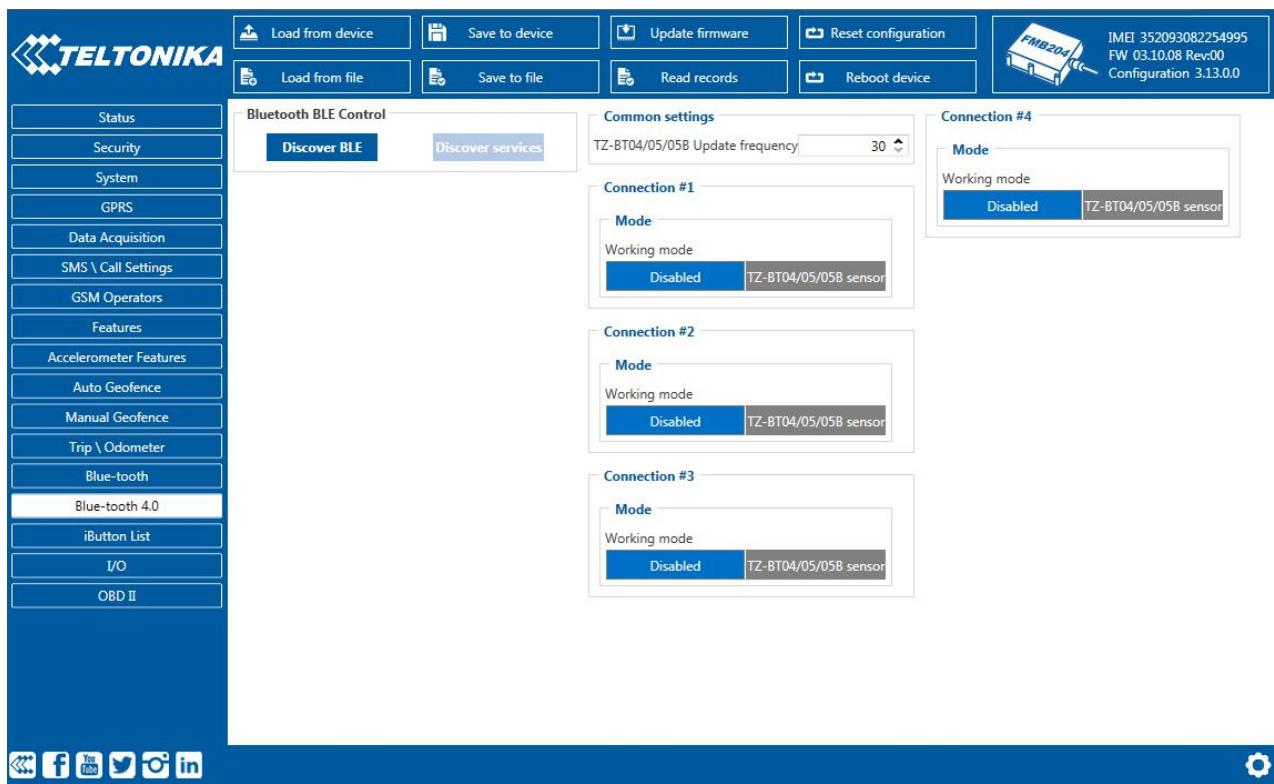

Figure 38 1- blue-tooth 4.0 settings; 2 - Enable blue-tooth mode; 3 - blue-tooth ID (MAC);
- When device configuration is loaded press „blue-tooth 4.0“ settings (**Figure 38 1** position).
- Change BTLE Radio mode by pressing „TZ-BT04/05 sensor“ (**Figure 38 2** position). „ID“ (**Figure 38 3** position) is the sensor’s MAC address that you want to connect.